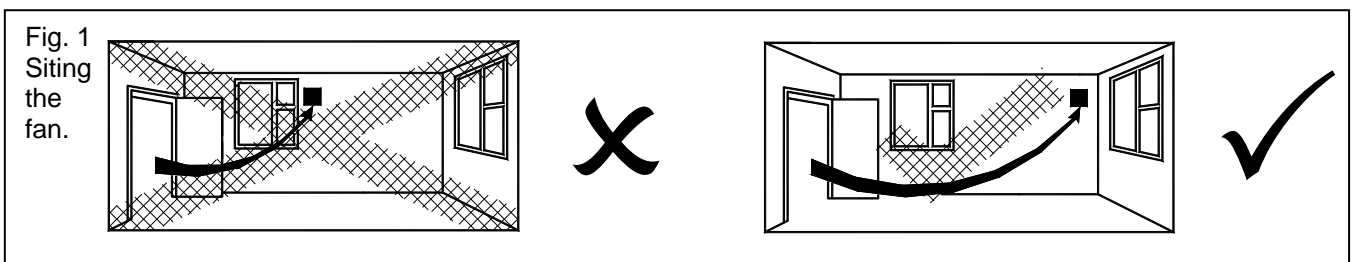

Fig.2 Continuous trickle (6l/s or 9l/s) with no remote boost facility **Note:-** (T, TP, HT & HTP – But TP & HTP can be boosted via pullcord)
1. Select and follow the appropriate wiring diagram. (Fig. 2, 3 or 4)